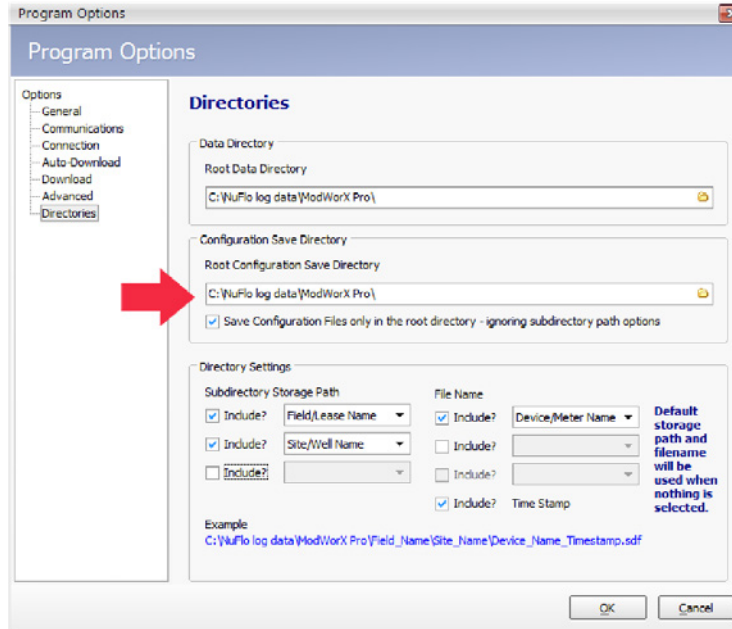

Figure A.26
- To change the directory to which configuration data is saved, click in the Configuration Save Directory portion of the dialog (Figure A.26, page A-24) and type the desired filepath or click the Folder icon to browse to the desired directory.